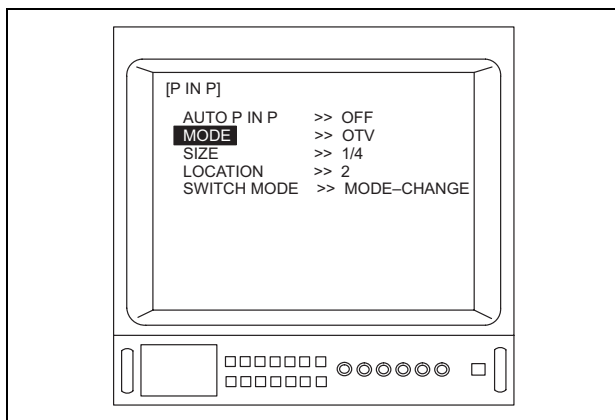

Figure 5.120
8. Depress the menu switch “←” or the “Enter” key on the keyboard to adjust the “MODE” (see Figure 5.120).